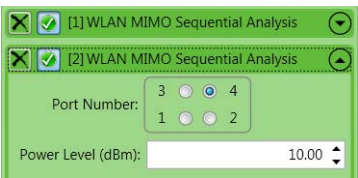

Figure 6-5. Sequential MIMO - Second Segment
10. Expand the second segment by clicking the arrow in its title bar -Figure 6-5.